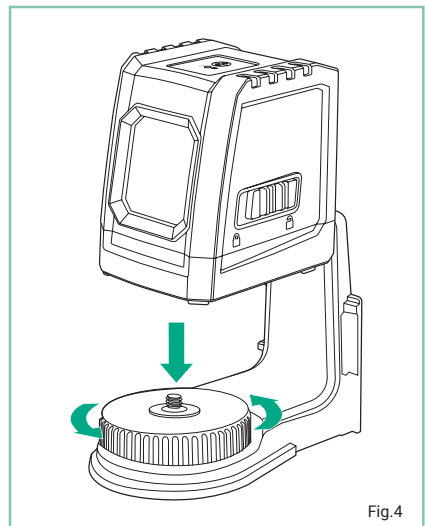

Fig.4
- Attach the laser level to the mount using the thumb screw (Fig. 4).